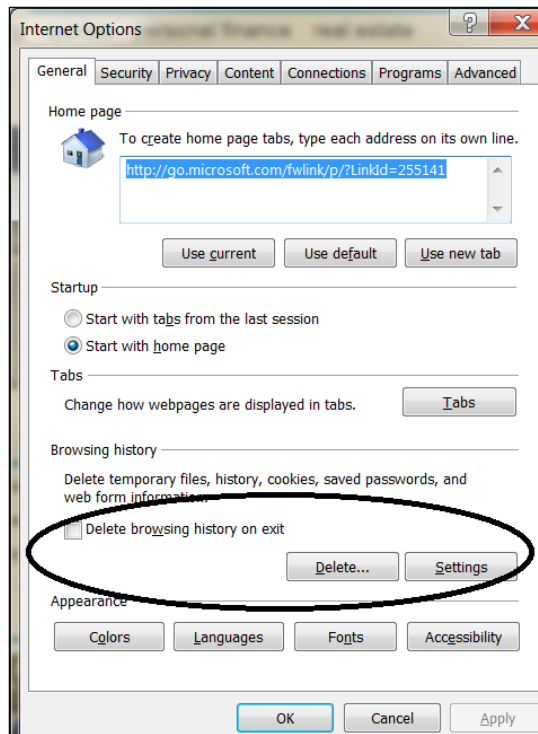

Figure 13: Internet Options popup box
- a) Select **Tools > Internet Options** from Internet Explorer main menu to display **Internet Options** popup box (Figure 13).
- b) Select **Delete** button under **Browsing history** to display **Delete Browsing History** popup box (Figure 13).